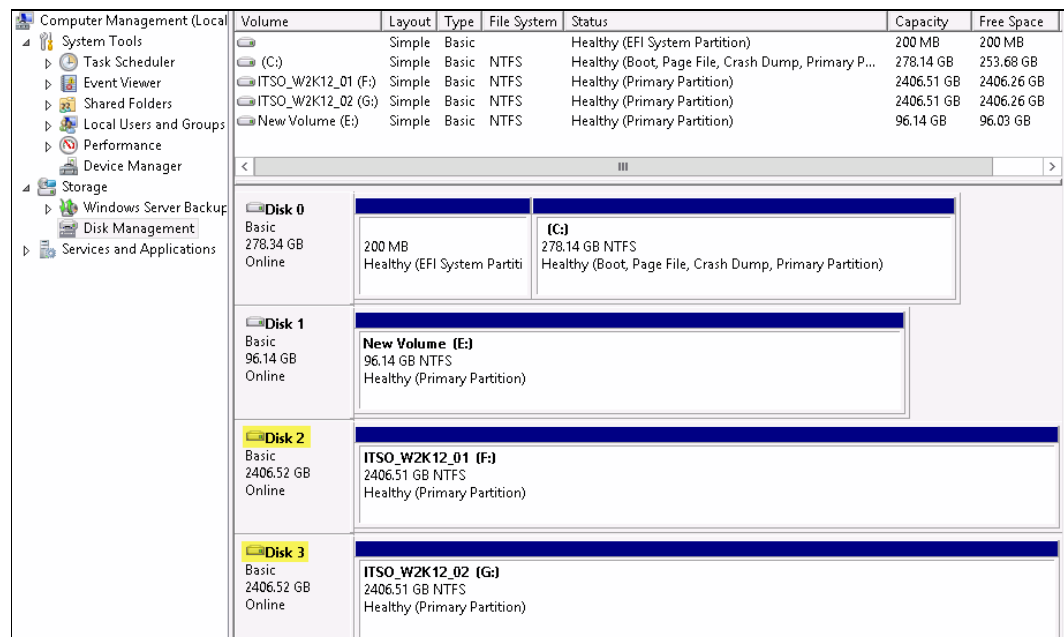

Figure 3-10 Mapped LUNs as displayed in Disk Management
7. The mapped LUNs on the host are listed under Disk Management as shown in Figure 3-10 (shown after creating a Simple Volume, formatting, and naming).